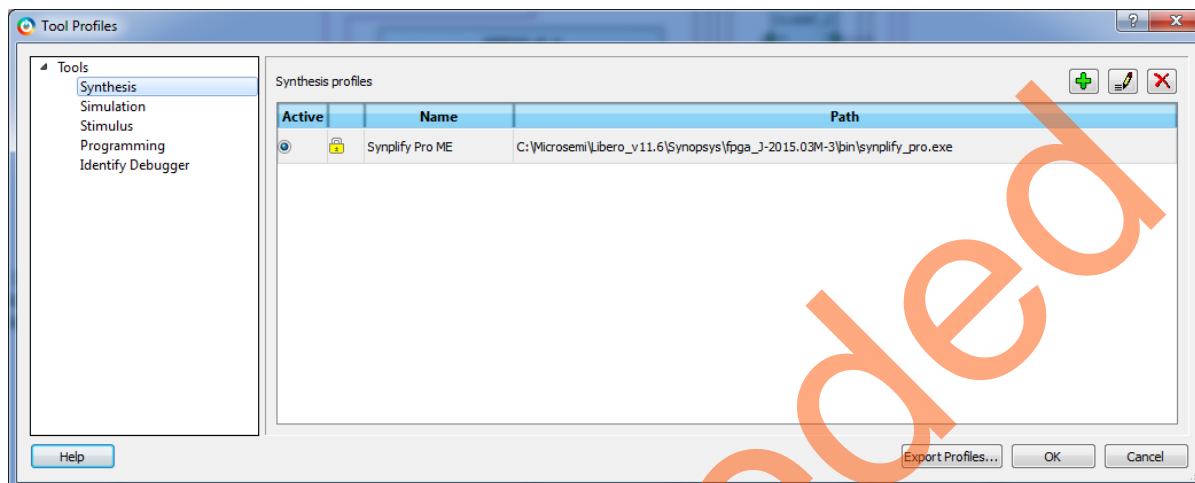

Figure 19 • Tool Profiles
6. Click **Edit Tool Profiles** to confirm the tool settings. Figure 19 shows the **Tool Profiles** window.